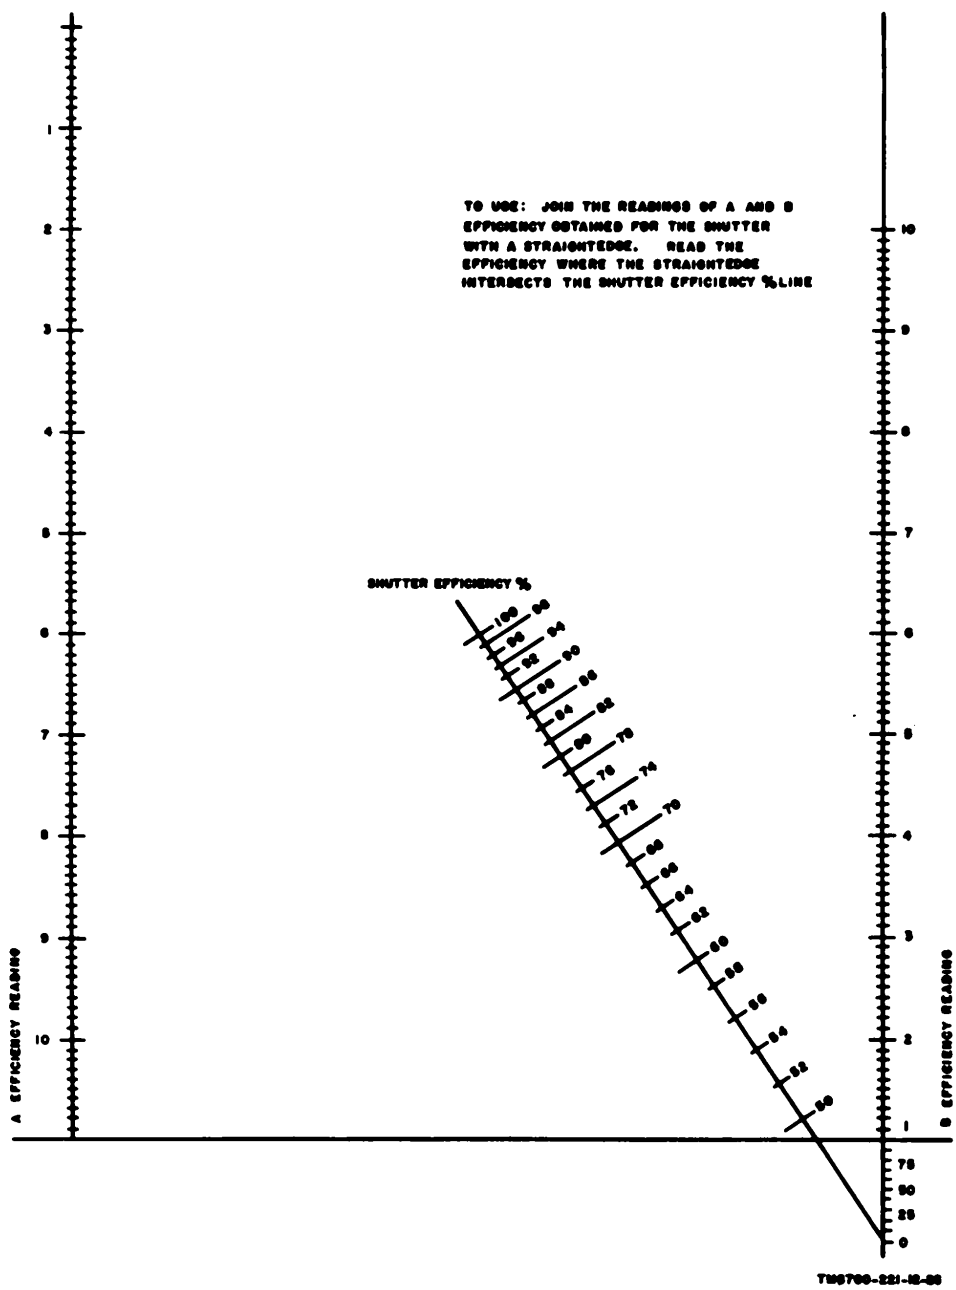

Figure 26. Shutter time and efficiency nomograph.
b. *Using Nomograph.* Use the nomograph (fig. 26) to interpret the results of the shutter efficiency test (para 41d) as follows:
- (1) Note the value of the A Efficiency reading on the nomograph.
- (2) Note the value of the B Efficiency reading on the nomograph.
- (3) Place a straightedge between the two points ((1) and (2) above) and read the shutter efficiency on the Shutter Efficiency % scale.
- (4) Compare the shutter efficiency ((3) above) with the requirements contained in the camera manual (TM 11-6720-207-35).